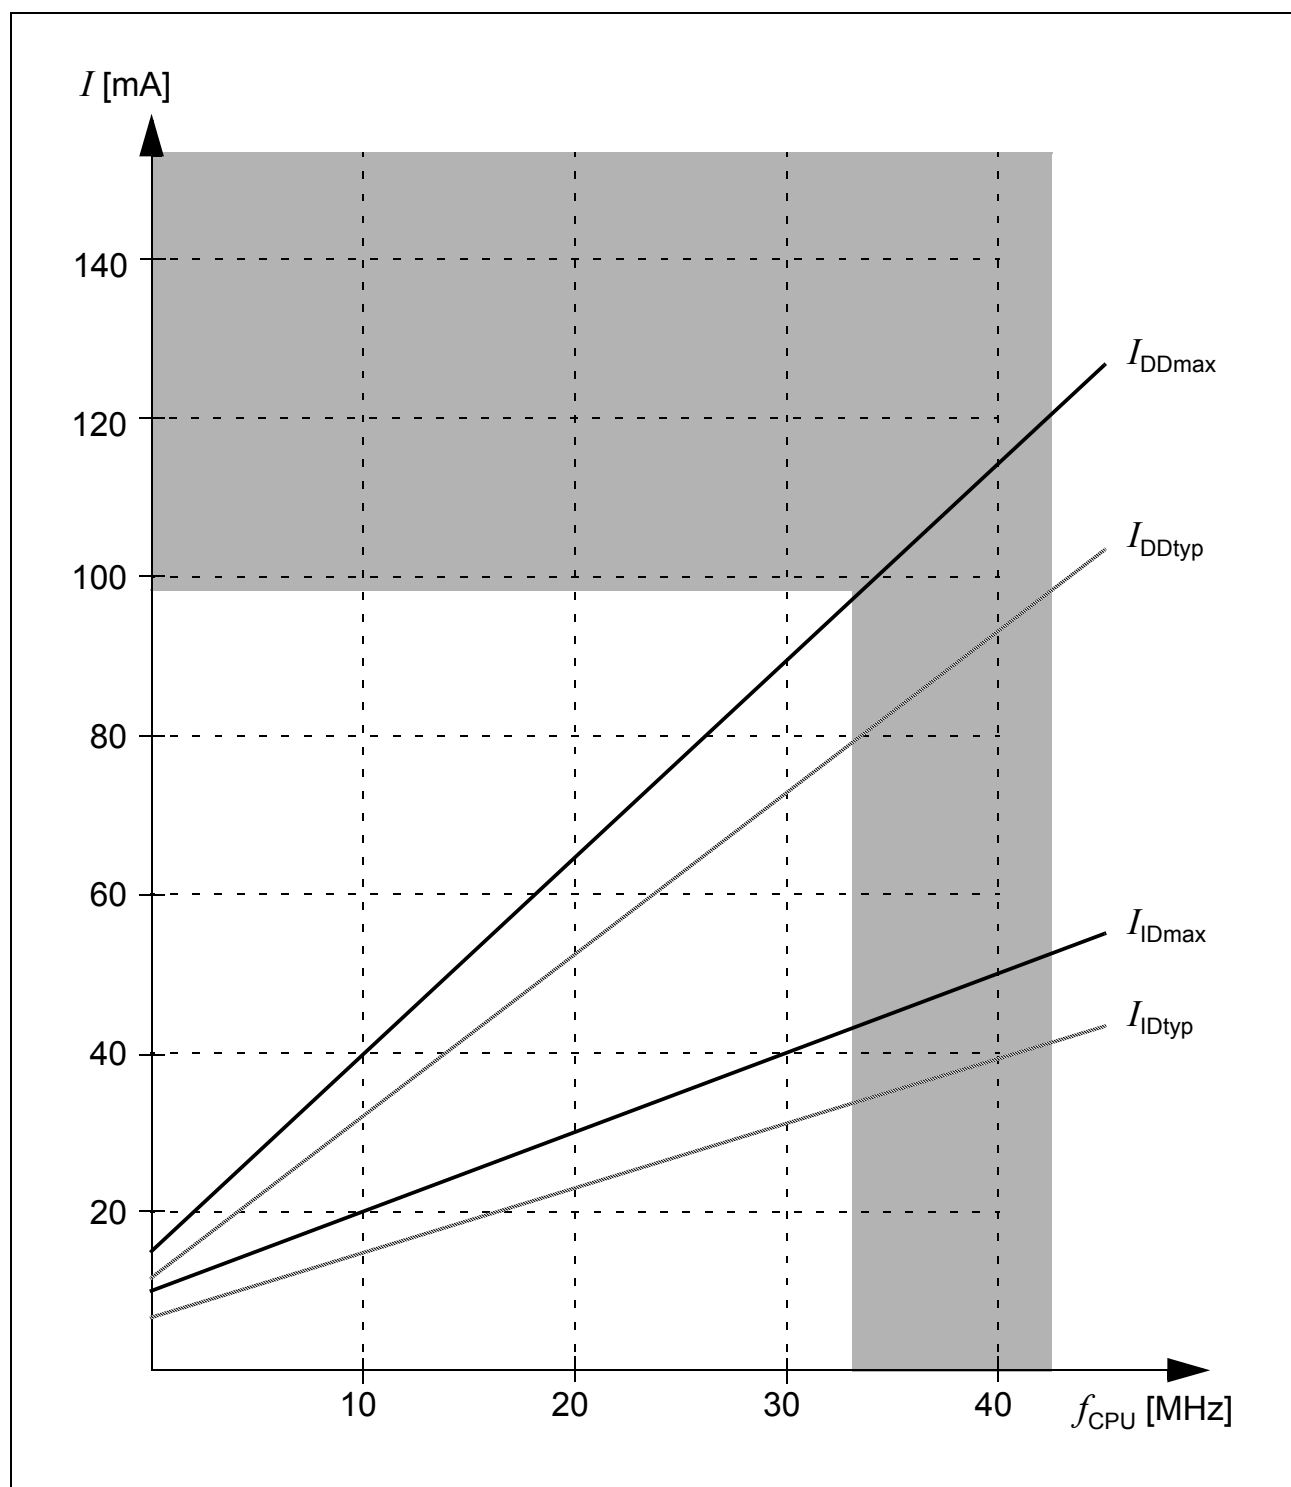

Figure 9 **Supply/Idle Current as a Function of Operating Frequency**
- 1) The supply current is a function of the operating frequency. This dependency is illustrated in Figure 9. These parameters are tested at V_{DDmax} and maximum CPU clock with all outputs disconnected and all inputs at V_{IL} or V_{IH} .